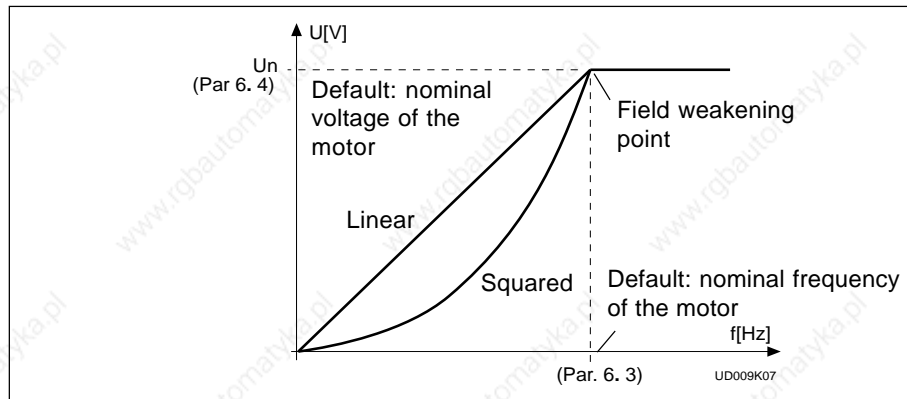

Figure 1.4-2 Linear and squared U/f curves.
Linear: The voltage of the motor changes linearly with the frequency in the constant flux area from 0 Hz to the field weakening point (par. 6. 3) where the nominal voltage is also supplied to the motor. See figure 1.4-2.
**Squared:** The voltage of the motor changes following a squared curve form with the frequency in the area from 0 Hz to the field weakening point (par. 6. 3) where the nominal voltage is also supplied to the motor. See figure 1.4-2.